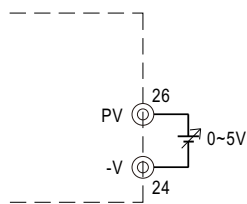

Figure 3-1 Connection of external DC voltage source
- (1) Connect output of the external DC source to PV(PIN 26) and -V(PIN 24) on CN1, as shown in Figure3-1.